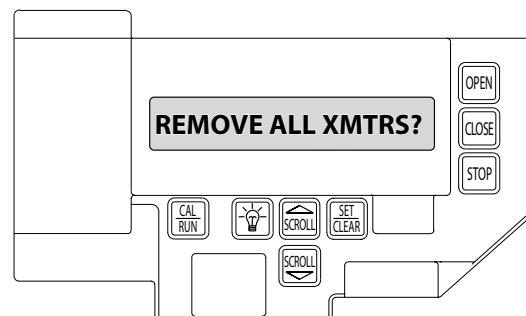

Fig. 3
2. Press SCROLL (up or down) until display reads "REMOVE ALL XMTRS" Fig.3